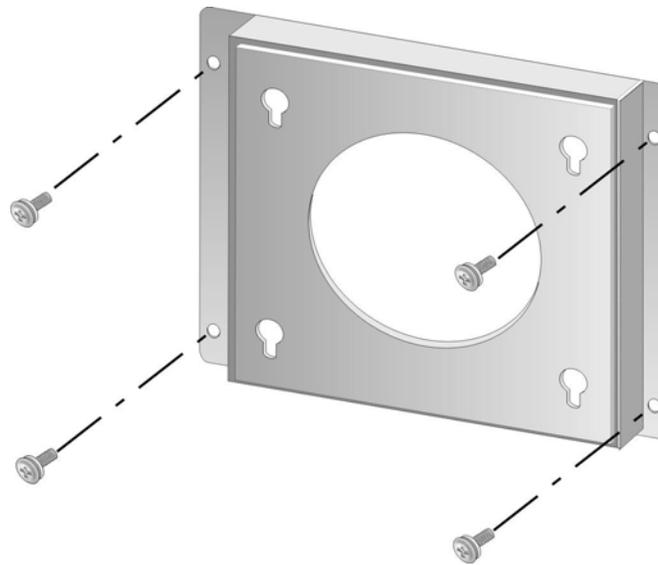

Figure 4-20: Wall-mounting Bracket
Step 5: Secure the mounting-bracket to the wall by inserting the retention screws into the four pilot holes and tightening them (**Figure 4-20**).